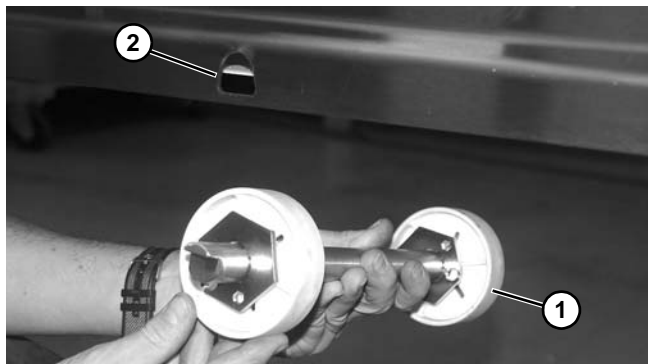

Figure 44
2. Remove belt returns (Figure 44, item 1) from slotted holes (Figure 44, item 2) on each side of conveyor frame at location you are separating belt.